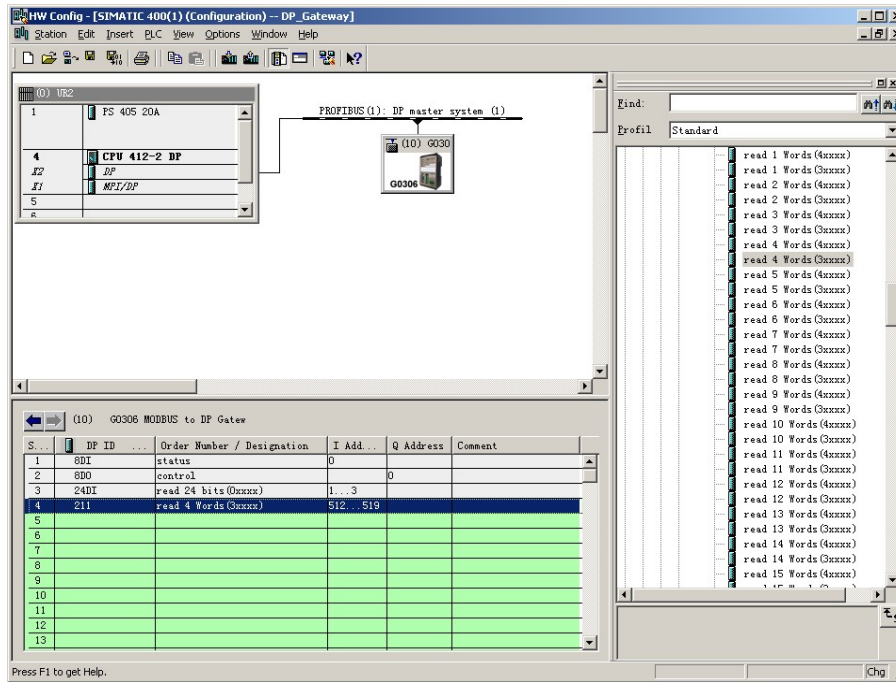

Figure 19 Add "read 4 Words(3xxxx)" module
a) Add the "read 4 Words(3xxxx)" module, as shown in Figure 19: